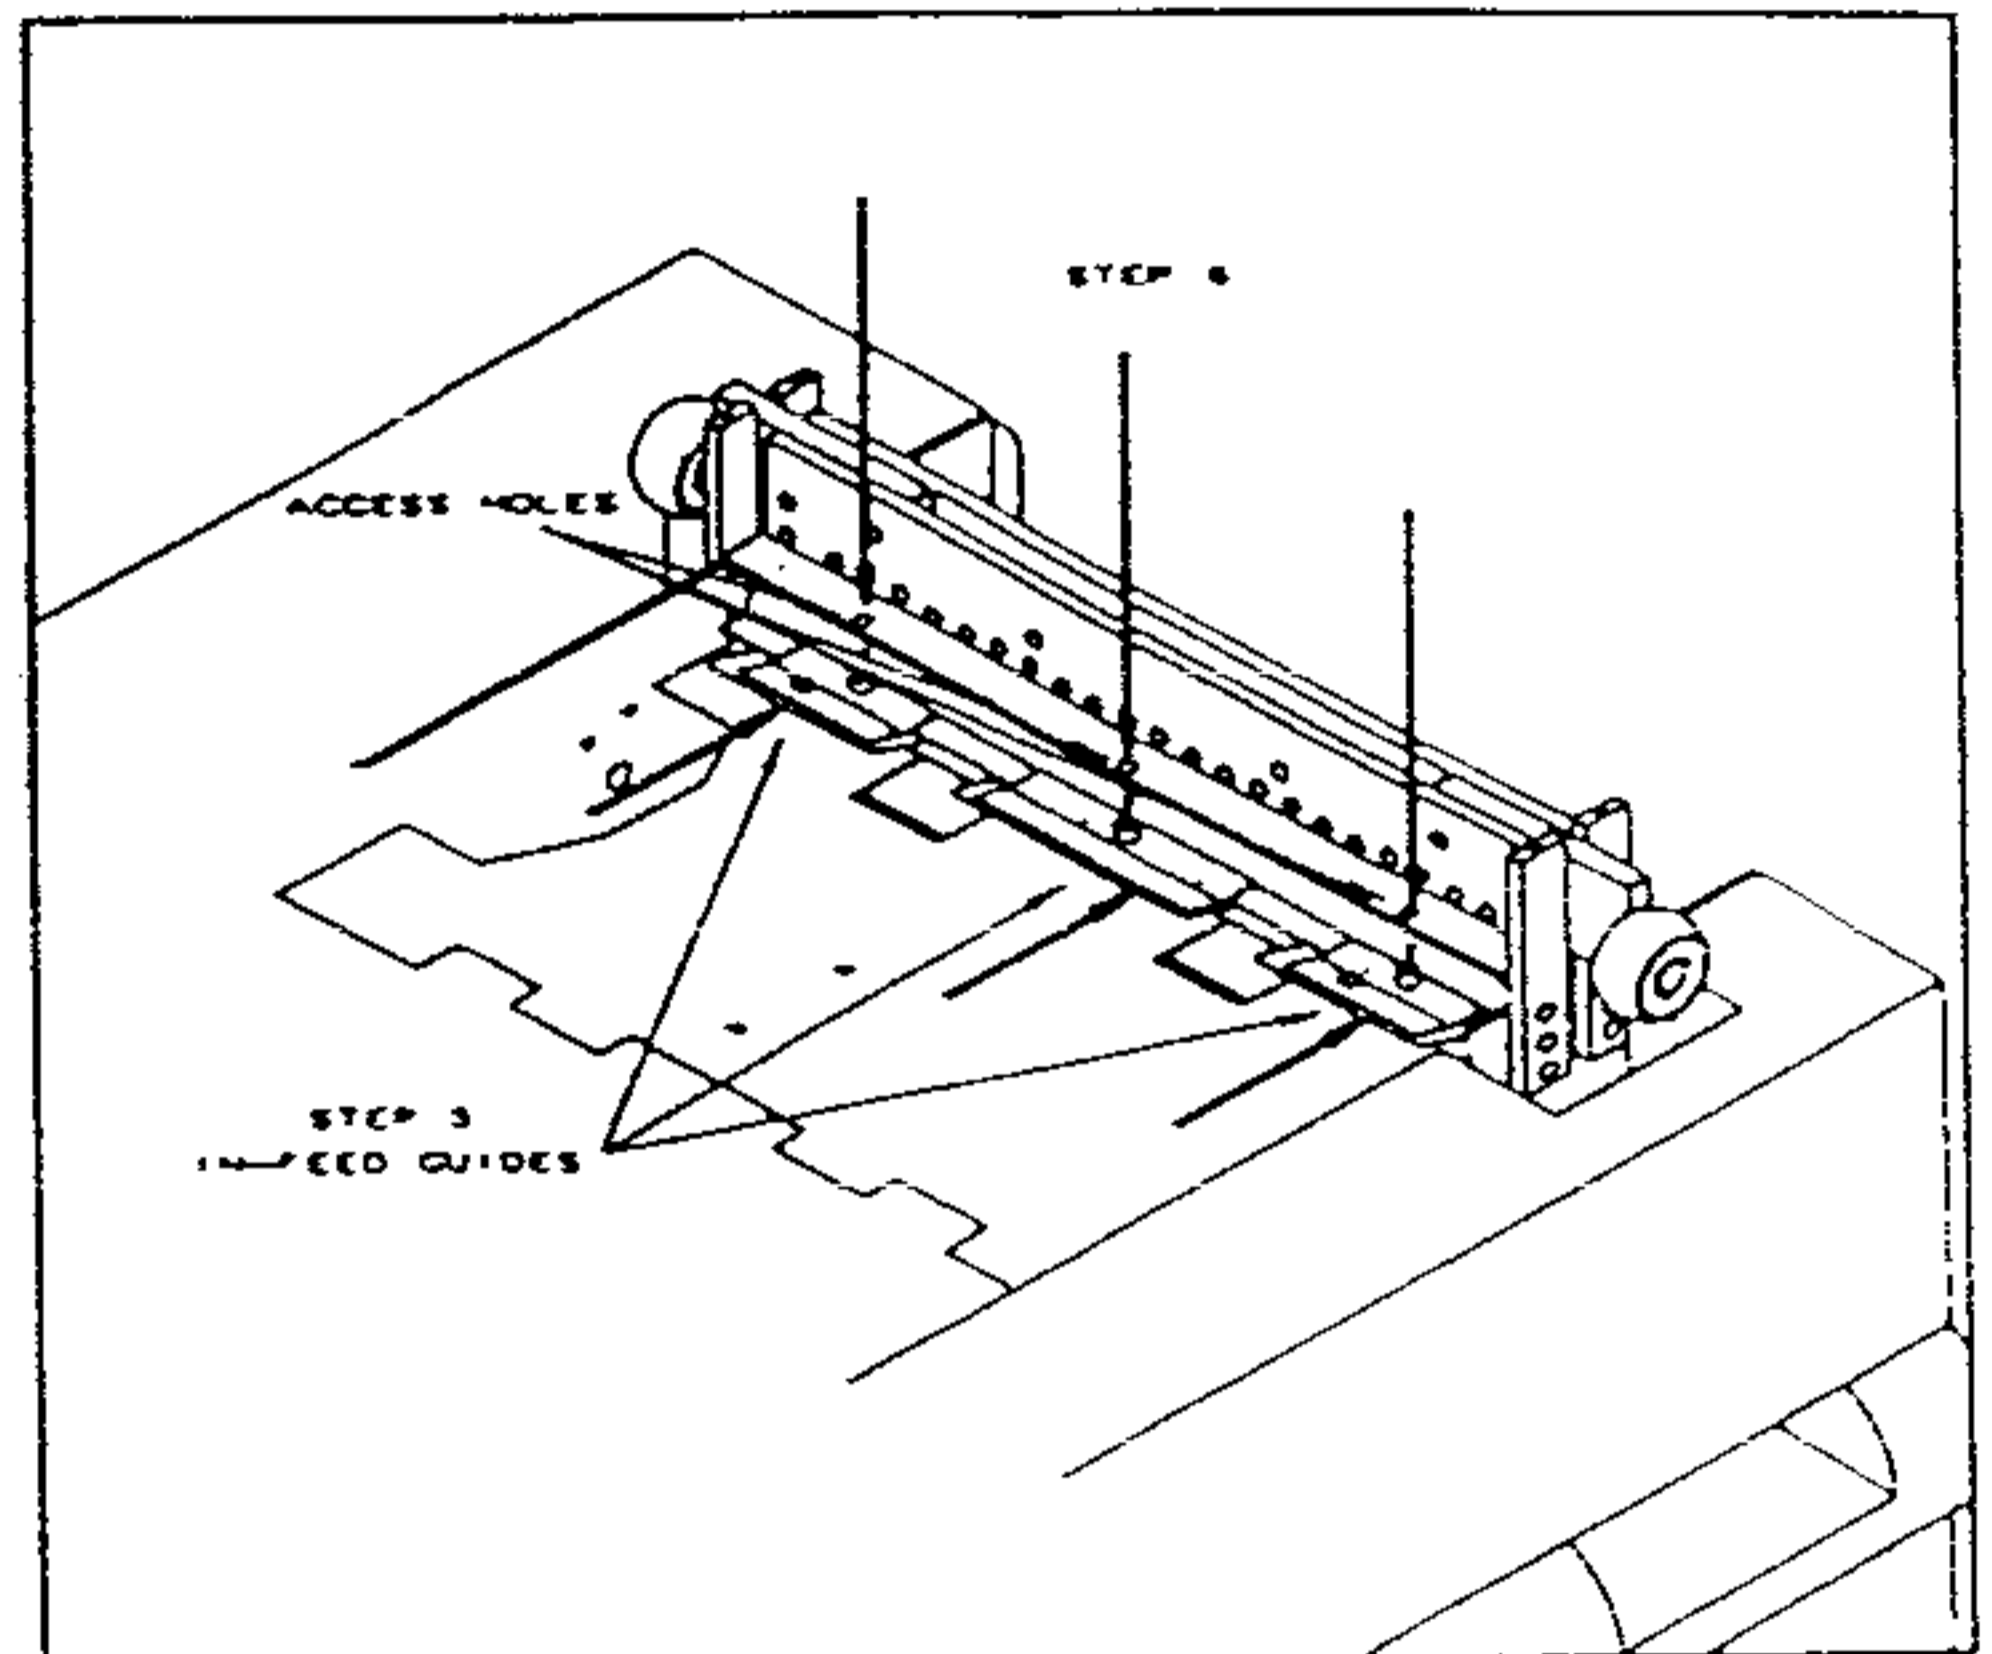

Figure 22
5. Place the three (3) paper in-feed guides in position and proper orientation on the punch die's middle guide plate as follows: The two (2) shorter in-feed guides should be positioned at the ends of the guide plate with the longer in-feed guide in the center. The flange on each should angle upward (See Figure 22)
6. Line up the three (3) in-feed guide mount holes with the holes in the die's middle guide plate. Insert one (1) Allen head screw with washer in each of the three (3) paper in-feed guides. Near the photo sensor, use pliers to place the screw in position. Use the hole in the plate just above each screw head to insert an Allen wrench and tighten the screw to the middle guide plate. (See Figure 22)